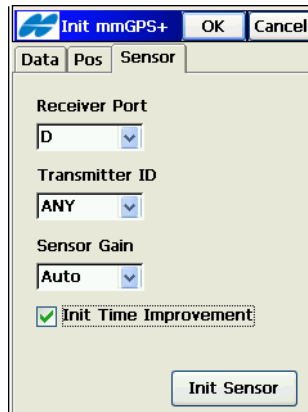

Figure 8-17. Init mmGPS – Sensor Tab
2. Select the *Sensor* tab and enter the following information (Figure 8-17 on page 8-17):